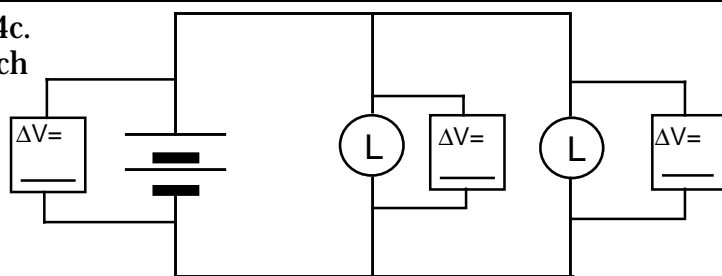

Figure 6.4c
9. Construct the circuit shown in Figure 6.4c. Measure the pressure differences across each of the parts of the circuit indicated in the diagram, and record the readings in the spaces provided.